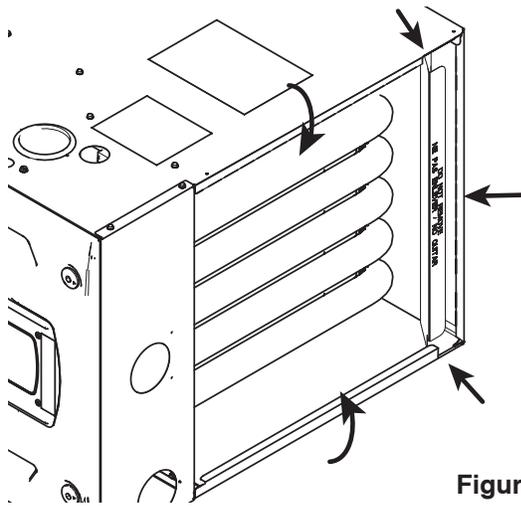

Figure 7
**Note:** When installing onto an S-Series furnace in horizontal right the flanges will be bend inward for a flush fit. See Figure 7.